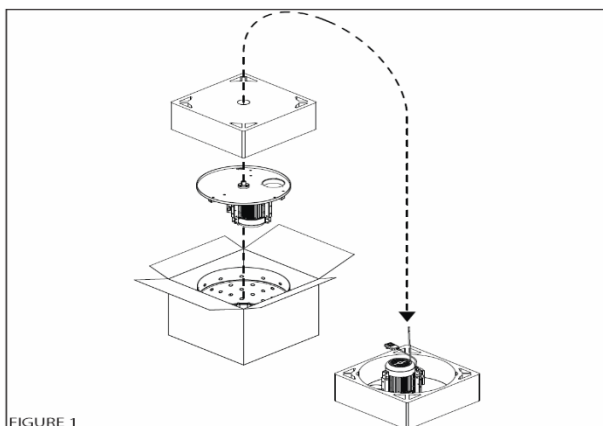

FIGURE 1
1. Unpack the machine (**FIGURE 1**)